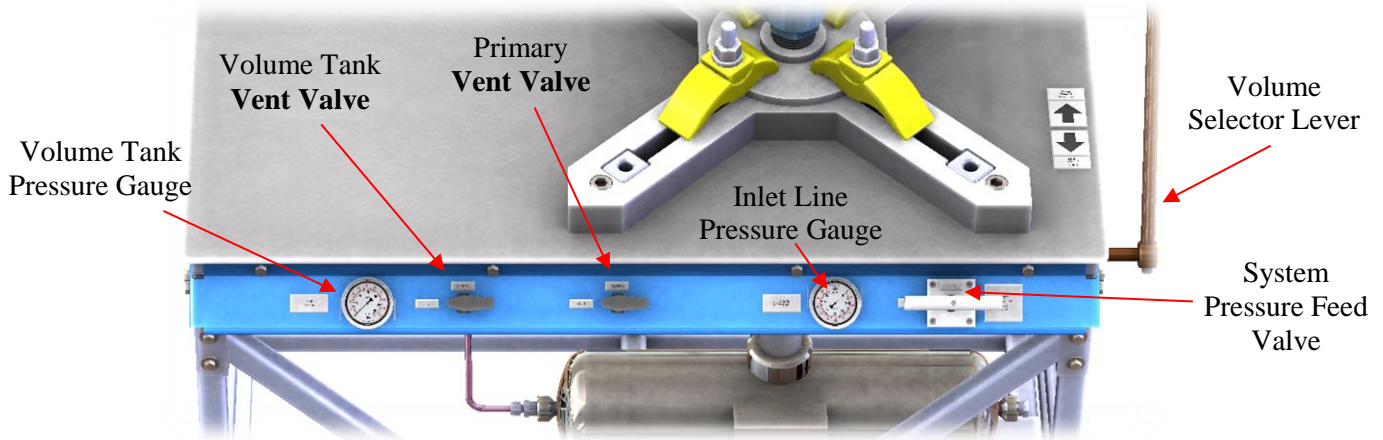

Figure 15: Test Stand Controls
5. Make sure that the feed valve is closed and the vent valves are open. See Figure 15.
3. Make sure that the feed valve is closed and the vent valves are open. See Figure 15.
1. Familiarize yourself with the controls and gauges of the test stand. Review Figure 15.